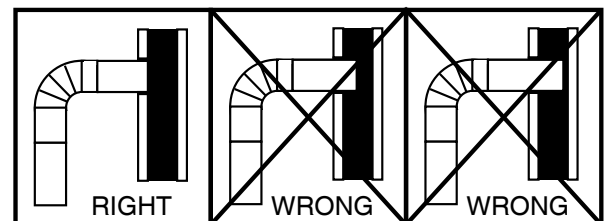

Figure 9
4. The chimney connector must not extend into the chimney flue. (See Fig. 9)